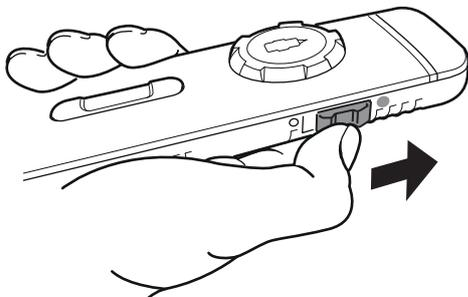

Fig. 12
- ▶ Slide the slide switch on the side upwards Fig. 12). After switch-on, the  symbol flashes in the tool-bar for approx. 5 seconds. Then the  symbol